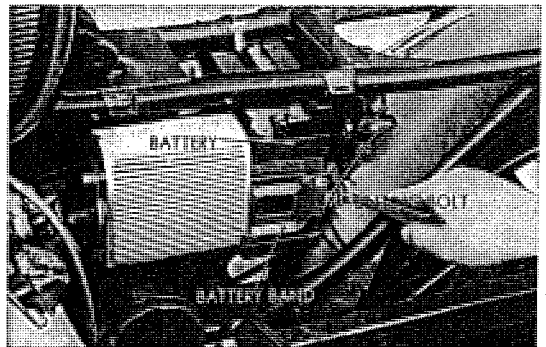

Fig. 6.39 Lifting the battery from the frame
- c. Loosen the battery retainer bolts and remove the battery from the frame. (Refer to Fig. 6.39)